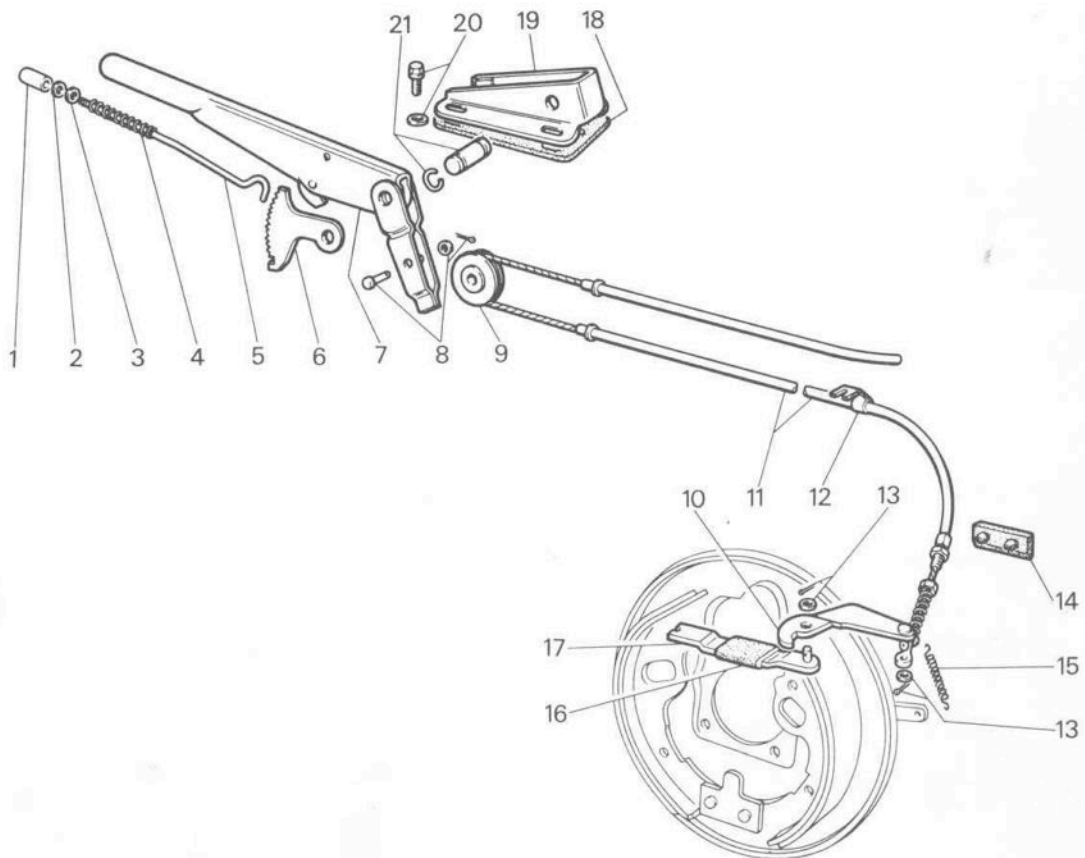

FIG 10:11 The handbrake system showing a rear brake on the right
**Key to Fig 10:11** 1 Release button 2 Grommet 3 Flat washer 4 Spring 5 Rod 6 Ratchet 7 Lever 8 Pin, washer and splitpin 9 Pulley 10 Lever at brake 11 Cable and casing 12 Clip 13 Flat washer and splitpin 14 Rubber pad 15 Spring 16 Rubber for strut 17 Strut 18 Gasket 19 Lever bracket 20 Bolt and flat washer 21 Lever pivot pin and circlip
Start at the brake farthest from the master cylinder. Clean the bleed screw to be found behind the brake backplate near the pipe line and attach a length of rubber or plastic tubing to it (see **FIG 10:10**). Immerse the open end in a small quantity of clean brake fluid in a glass container. Loosen the bleed screw by a turn or two and get the second operator to pump the brake pedal slowly down and up. At first, air bubbles will be seen to emerge from the submerged tube. When the bubbles cease, keep the brake pedal depressed and tighten the bleed screw.